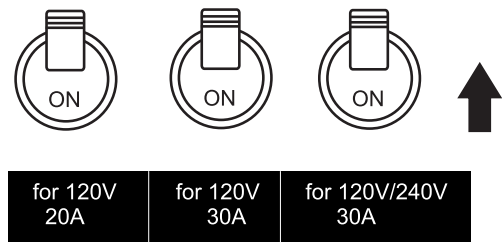

Figure 29. Auxiliary Circuit Breakers (ON)
- Place auxiliary circuit breakers (Figure 29) in the **ON** position.